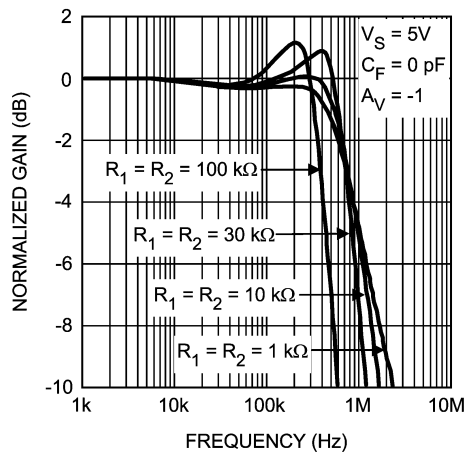

FIGURE 3. Closed Loop Gain vs. Frequency
As shown in Equation (1), as values of R_1 and R_2 are increased, the magnitude of the poles is reduced, which in turn decreases the bandwidth of the amplifier. Whenever possible, it is best to choose smaller feedback resistors. Figure 3 shows the effect of feedback resistor on the LMP7701/LMP7702/LMP7704 bandwidth.